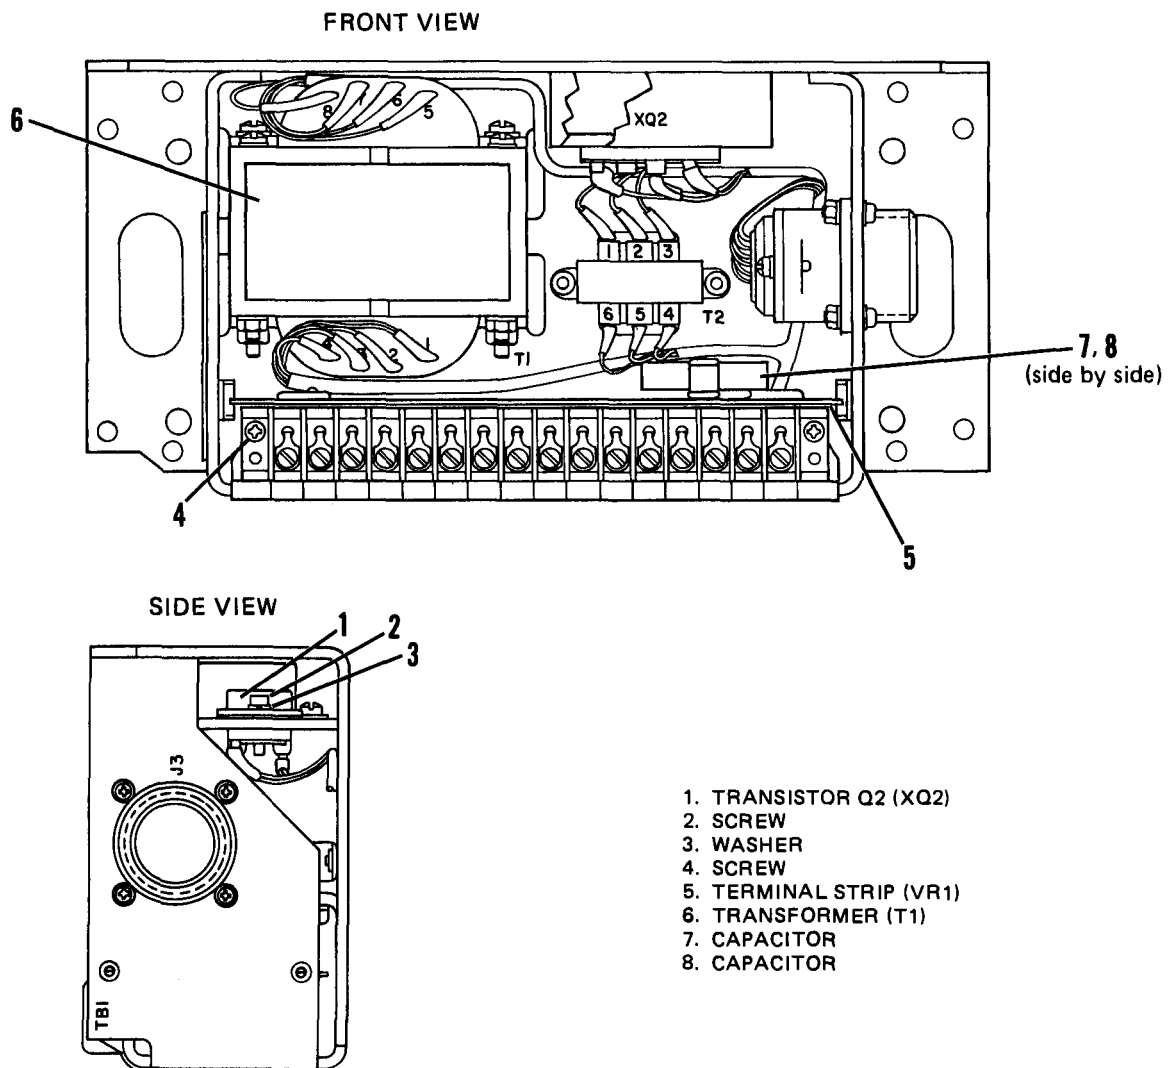
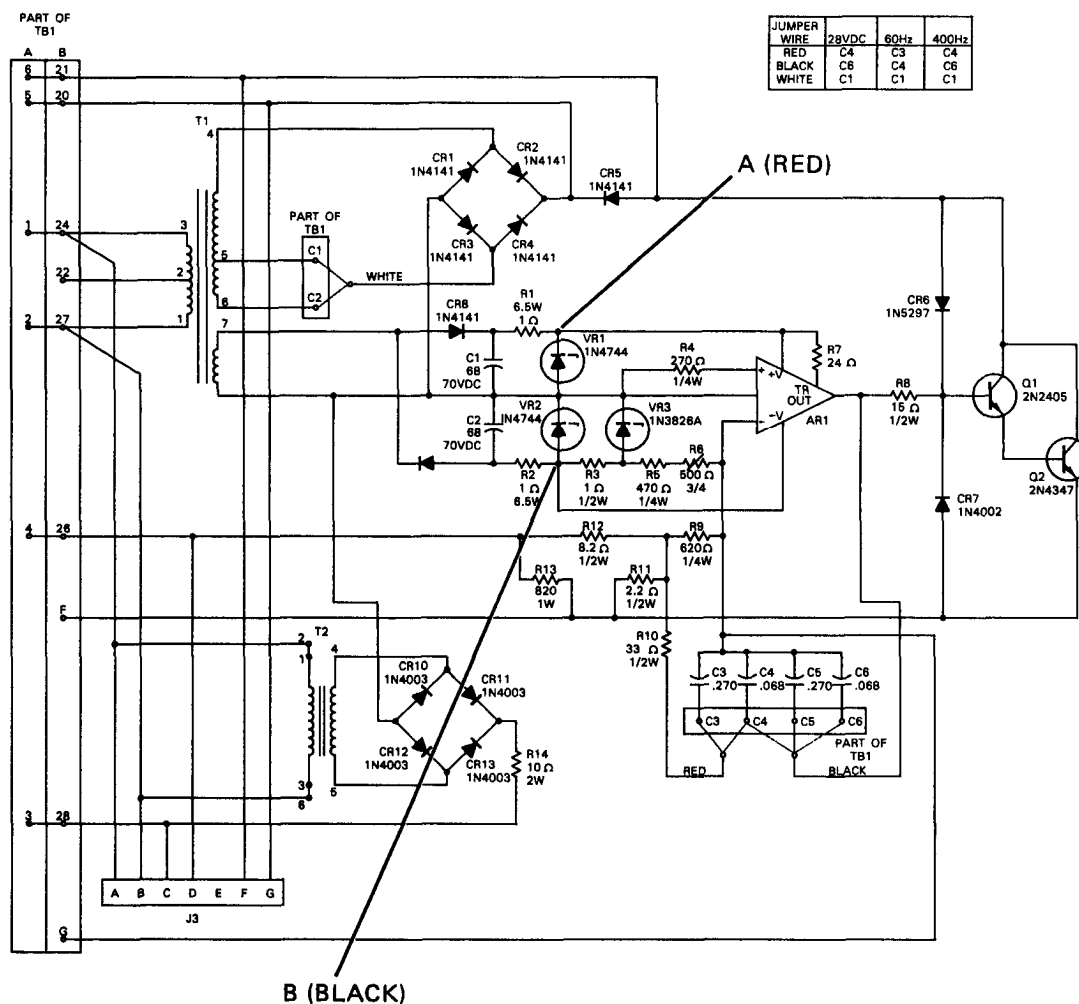
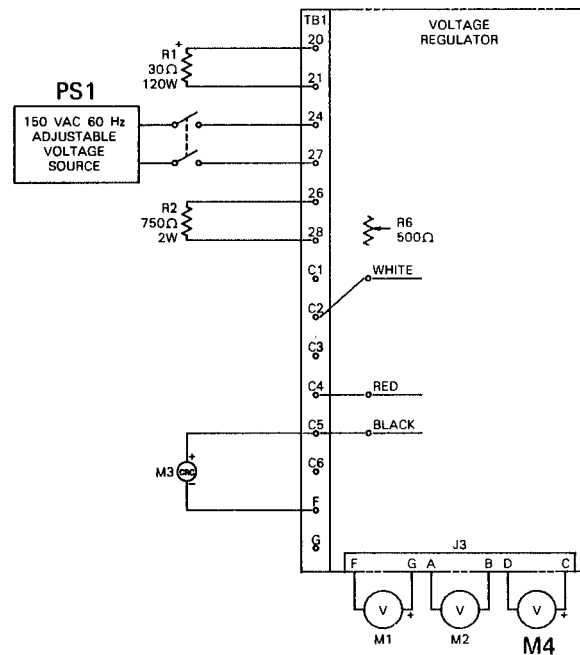

Figure 5-13. Voltage Regulator Testing.
Figure 5-15. Voltage Regulator Schematic.
Figure 5-16. Voltage Regulator Adjustment Schematic.
(a) Locate power transistor Q2 (1, Figure 5-13) on the back of the voltage regulator housing.
(3) Remove terminal strip VR1.
(a) Remove two screws (4, Figure 5-13 that secure terminal strip VR1 (5).
- (8) Solder lead of diode CR6 to printed circuit board (6, Figure 5-13).
- (9) Install transistor Q2 (1, Figure 5-13) with mica insulator between Q2 and regulator housing.
- (10) If necessary, apply a small amount of heat sink compound (Table 2-2, item 14) (P/N 13217E3704, FSCM 97403) to transistor Q2 and housing. Secure transistor Q2 with screws (2) and washers (3).
- (11) Make test connections.
- (a) Connect a 30 ohm 120 watt resistor to terminals #21 and #20 of terminal strip VR1 (5).
- (d) Attach the two rheostat leads to terminals #26 and #28 of terminal strip VR1 (5). Turn the rheostat clockwise to its maximum rotation.
- (e) Connect a 0-150 VAC, 60 HZ power supply (refer to Table 2-1) to terminals #24 and #27 of terminal strip VR1 (5).
- (12) Perform tests.
- (j) Locate components R1 and R2. Refer to Figure 5-15 for a wiring schematic. Apply 115 VAC to terminals #24 and #27 of terminal strip VR1 (5, Figure 5-13).
- (o) A voltage of 25-35 VAC should be present. If voltage is not present, check that 115 VAC power source is connected properly and all wiring connections to T1 (6) are tight. If power is properly connected and T1 (6) connections are tight transformer T1 (6) should be replaced.
- (p) After verifying that 25-35 VAC is present across T1 (6) terminals #7 and #8, locate diodes CR8 and CR9 on circuit board (6).
- (s) Locate capacitors C1 (7) and C2 (8) on the reverse side of the printed circuit board. Unsolder one end of each capacitor from the circuit board.
- (t) Test capacitors C1 (7) and C2 (8) with a multimeter (set to read ohms) across the capacitor being tested and then reverse leads across capacitor.
- (w) Locate zener diode VR3 on circuit board and apply 115 VAC to terminals #24 and #27 of the terminal strip VR1 (5, Figure 5-13).
- (aa) Apply the 115 VAC power to terminals #24 and #27 of the terminal strip VR1 (5). Recheck the voltage drop across zener diode VR2, there should be a voltage drop of 14 VDC present. If 14 VDC is present and there is no voltage drop across zener diode VR3, VR3 should be replaced.
- (1) The following components and equipment are needed for the adjustment procedures on the voltage regulator.
- (2) Connect voltage regulator, equipment, and components as shown in Figure 5-16.
- (3) Set potentiometer R6 to 250 ohms (halfway).
- (4) Turn AC power supply (PS1) on.